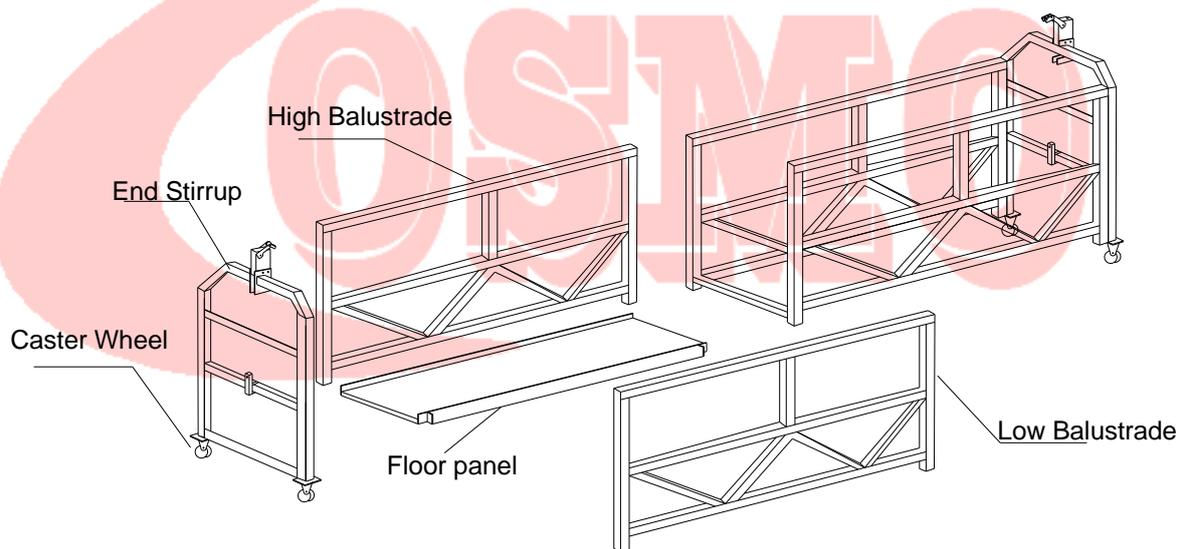

Figure 12 Installation of Suspended Platform
**5.3.1** Put the bottom plate on the ground, mount front and rear guard rail and fix bolts and nuts respectively. (**See Figure 12**)